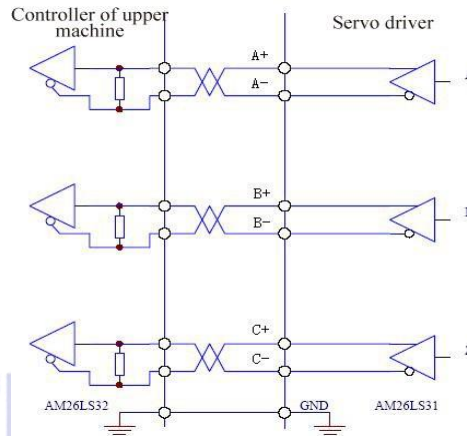

Figure 2-11a: Type5 Photoelectric Encoder Output Signal
- ☐ Non-isolated output, as shown in Figure 2-11a;